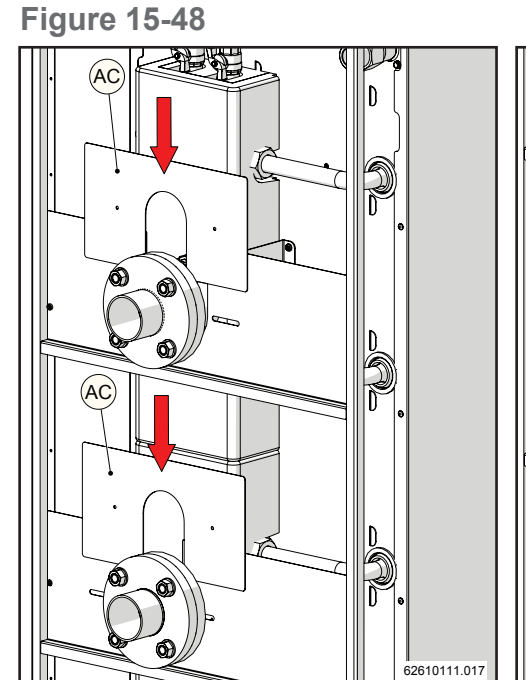
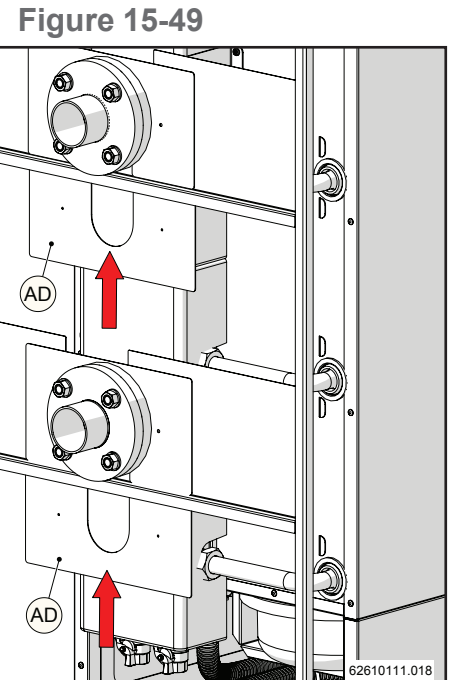
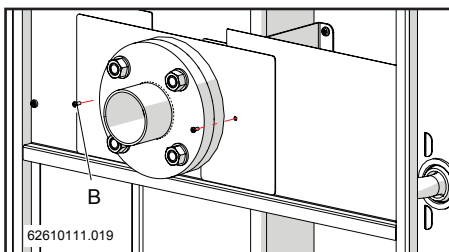
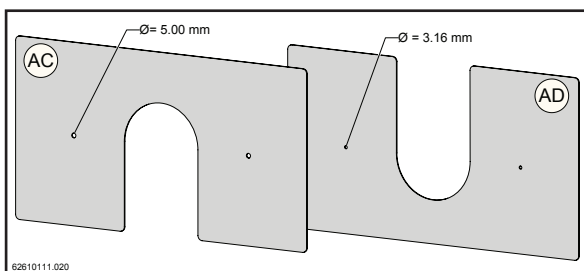

Figure 15-51
Figure 15-52
Figure 15-53
Figure 15-54
- 10.- Insert metal sheets (AC) and (AD) in figure 15-54 respectively in front of (figure 15-51) and behind (figure 15-52) the previously assembled metal sheets in the direction shown by the arrows. Then put in screws "B" as in figure 15-53.
WARNING: the metal sheets (AC) and (AD) include holes of different diameters (see figure 15-54). For correct assembly, position them in the ways described in point 10.